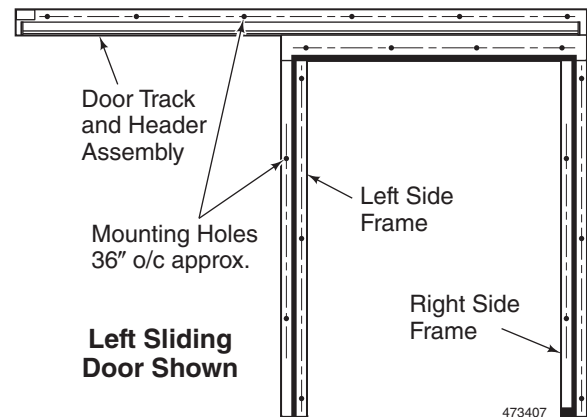

Figure 2
3. At job site, drill 5/16" holes in the frames and headers for mounting to the backing in the wall. Space holes 6" in from the end, then every 36". See *Figure 2*.
Attach the frames to the wall with the #18 x 4" Phillips flat head sheet metal screws and finish washers that are provided. Verify that the frames are still plumb and square to the door opening. See *Figure 2*.